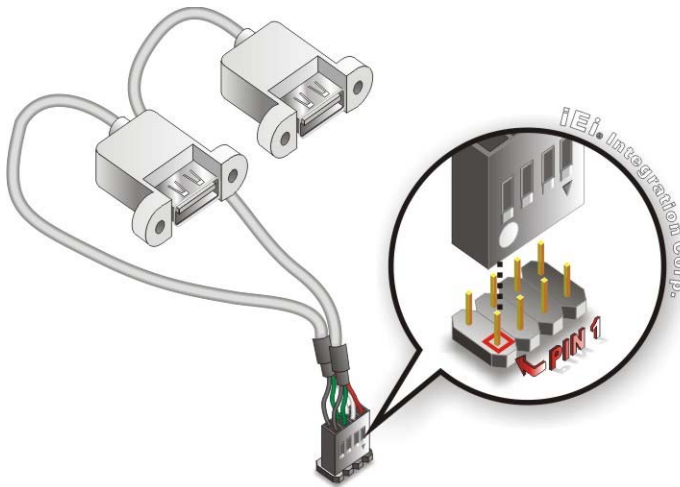

Figure 4-20: Dual USB Cable Connection
Step 3: Insert the cable connectors. Once the cable connectors are properly aligned with the USB connectors on the NOVA-PV-D5251/D4251, connect the cable connectors to the on-board connectors. See Figure 4-20.